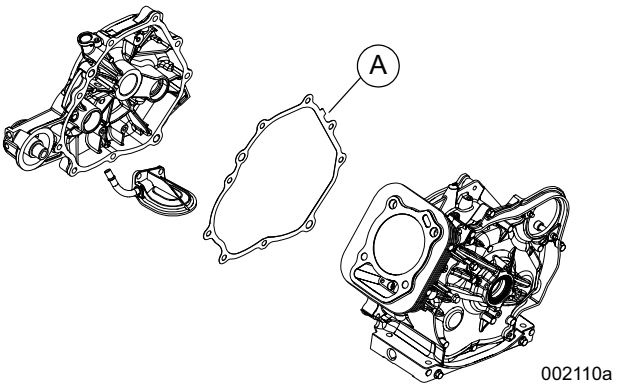

Figure 9-9. Assembly of Crankcase Cover and Oil Pump
- 4. See Figure 9-9. Place crankcase cover gasket (A) onto crankcase flange.